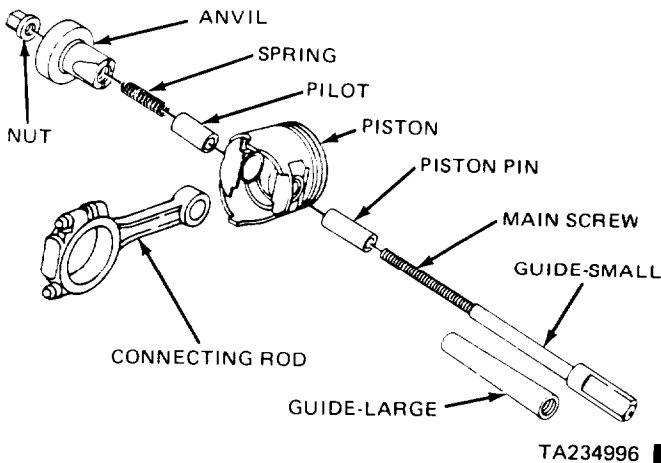

Figure 11-12. Arrangement of Tool C-4158-L for Installing Piston Pin.
- (1) Test the piston pin fit in the piston prior to assembling the piston and connecting rod. The pin should be a sliding fit in the piston. If a new pin fits loosely, the piston and pin assembly must be replaced.
- (2) Lubricate the pin holes in the piston and connecting rod.
- (3) Select the appropriate pilot and anvil for use with tool C4158-L.
- (4) Arrange tool C4158-L for installation of the piston pin (figure 11-12).